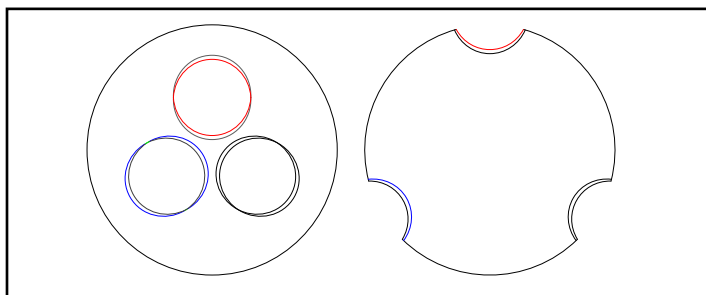

Figure 5: Different methods for handling the offset between centering ring surface intersections
(1) Make the smallest vertical cut (red in Figure 5) and do a lot of tricky sanding at a 15-degree angle
(2) Make the largest vertical cut consisting of two partial ellipses (blue) plus a couple of short straight segments between them (green) and then use epoxy to fill the gaps
(3) Have them cut on a 5-axis CNC mill (\$\$\$)